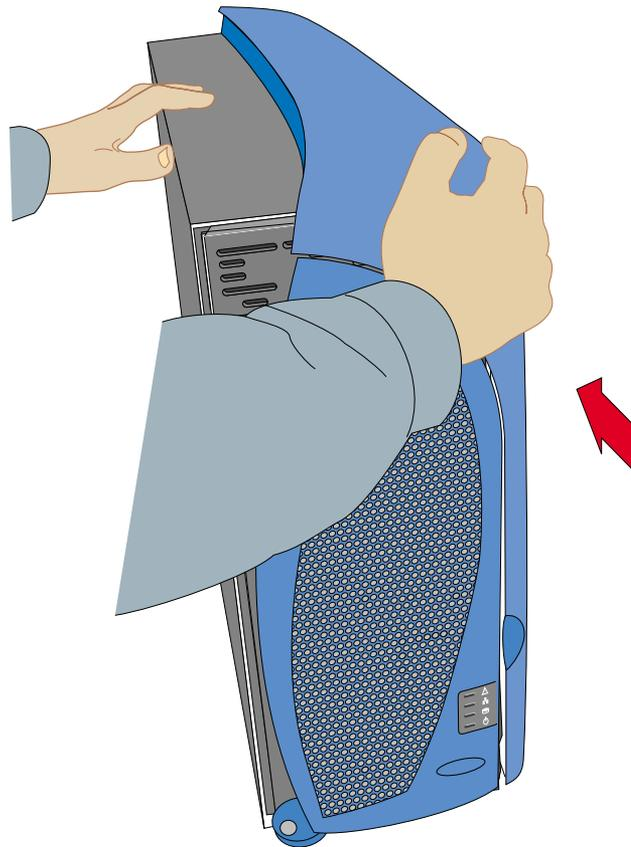

Figure 12 Snapping the Side Cover into Place
8. Push the side cover toward the rear of the server until it snaps into place, as shown in Figure 12.